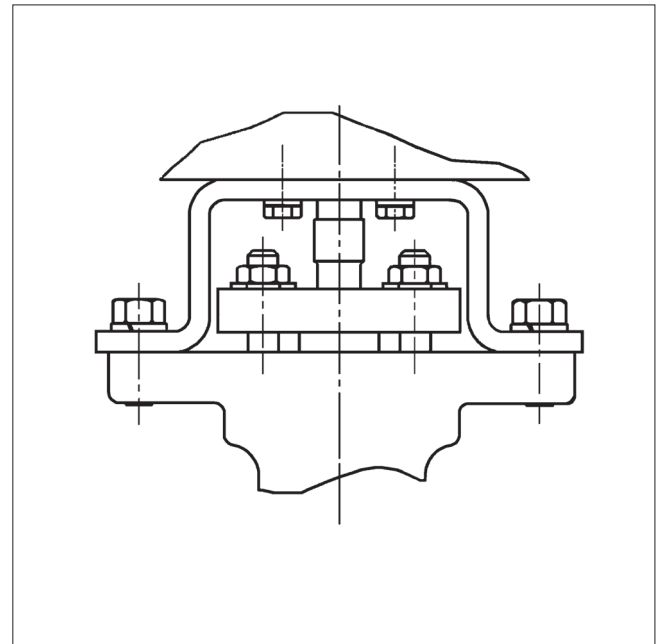

Figure 14.
4. Lower actuator and bracket onto valve while engaging actuator stem driver into coupling. Tighten screws just enough to firmly mate bracket to valve. This should allow bracket to shift, allowing the coupling to align the valve and actuator shafts. (See Figure 14, Step 3A.)
5. Tighten the no-play coupling screws to torques shown in (Figure 14, Step 3B). Use alternating sequence shown.
7. Fully tighten the screws holding the bracket to the valve, as shown in **(Figure 14, Step 3C)**.
8. Recheck no-play coupling screw torques, using the torques in **(Figure 14, Step 3B)**. Use alternating sequence shown.